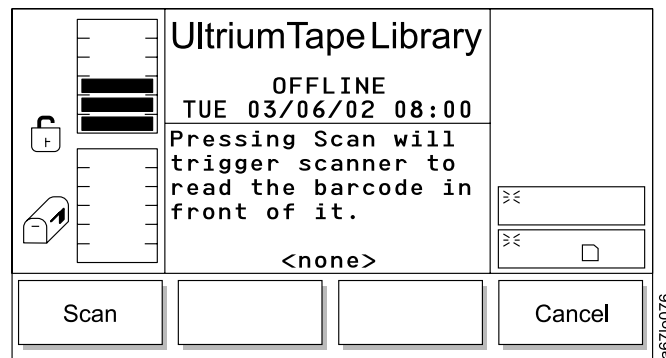

Figure 172. Scanner Dialog
- If **Scanner** is selected, the Scanner Dialog displays (see Figure 172 on page 139).